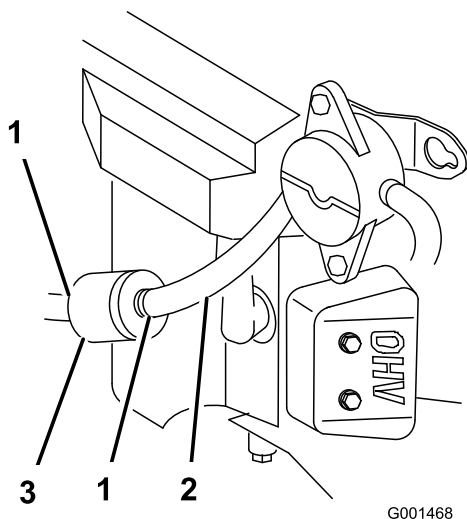

Figure 48
2. Clean around the fuel cap to prevent debris from getting into the fuel tank (Figure 48).
4. Squeeze the ends of the hose clamps together and slide them away from the filter (Figure 48).